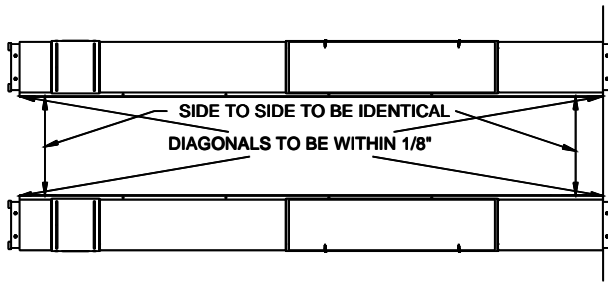

Fig 6 – Final Runway Positioning
- 12) Check the layout of the lift in the bay. **(This is the last opportunity to reposition the lift. If there is any question about where the front column anchors or power unit are going to end up, complete steps 21 - 24 first and come back to this step).** Adjust the position of the runways so the distance from power side jack rail to idler side jack rail is the same at the front and rear and the diagonal measurements from the front tip of one rail to the rear tip of the opposite rail are within 1/4", Fig 6.
- 31) Recheck the four measurements from **Fig 6**.